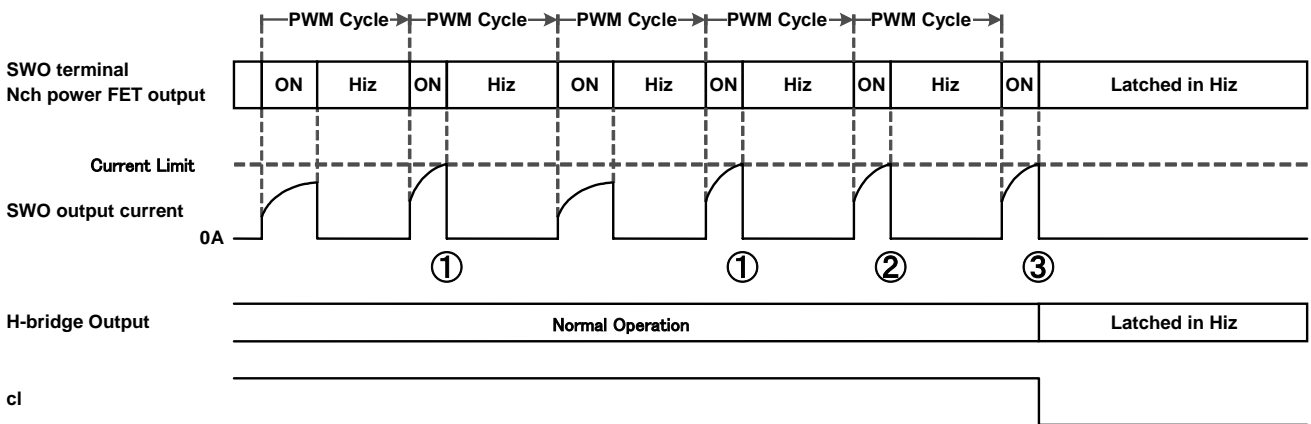

Figure 12. SWO output current limit timing chart
* When it takes current limit three times consecutively in CLCANCEL=1'b0, It stop the SWO output and H bridge output. As for the return of the current limit, it is reset the PS terminal. (refer to Figure 12).